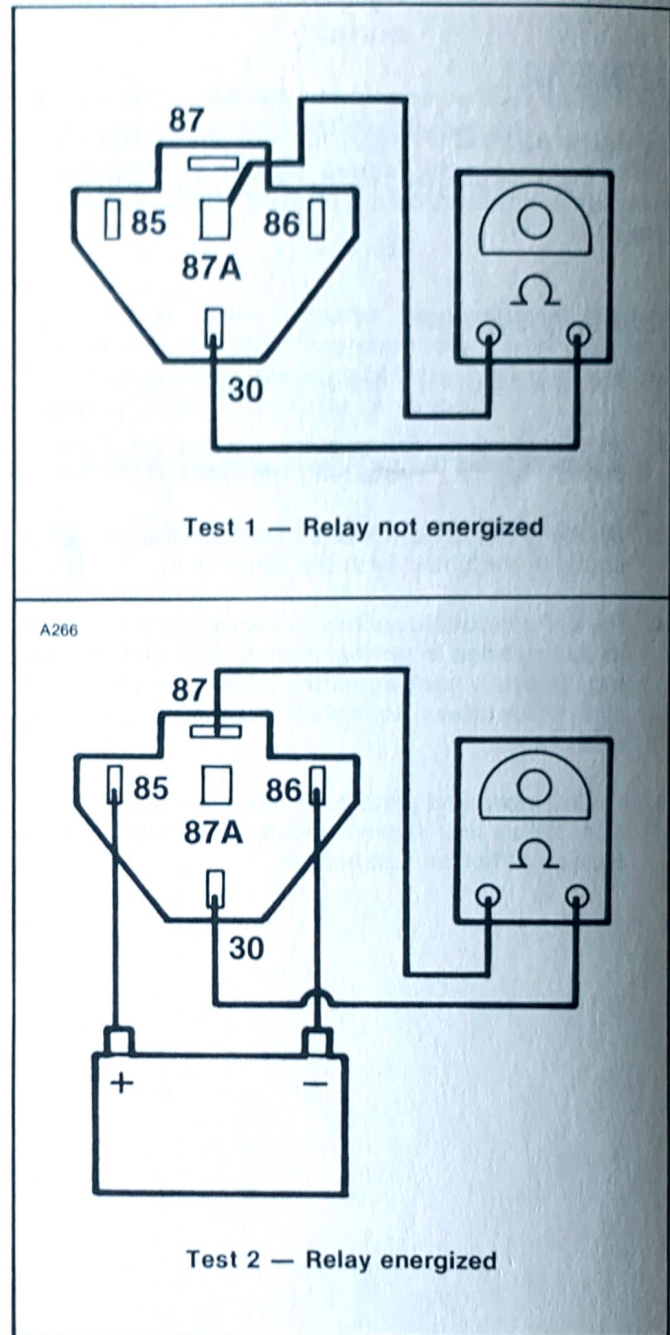

Figure 8-13. Siren Relay Test
3. See Figure 8-13, Test 1. Check for continuity between terminals 30 and 87A. If continuity does not exist - replace relay. If continuity is present, continue at step 4.
4. See Figure 8-13, Test 2. Connect the battery leads to terminals 86 and 85 to energize the relay. Check for continuity between terminals 30 and 87. A good relay will show continuity (continuity tester lamp on or a zero ohm reading on the ohmmeter). A defective relay will not have continuity and should be replaced.